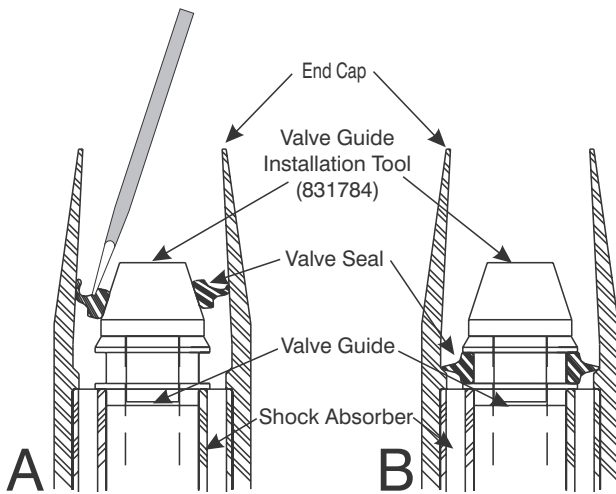

Figure 9-5. Press Valve Seal into End Cap and onto Valve Guide.
13. Look inside the non-threaded end of the End Cap and lubricate that part of the Valve Guide that protrudes from the Shock Absorber. See Figure 9-5-A.
14. Lubricate the Valve Guide Installation Tool 831784 and place it into the Valve Guide. The smaller part of the cone faces up as shown in Figure 9-5-A.
15. Lubricate the Valve Seal (17) and fit it around the cone of the Valve Guide Installation Tool. See Figure 9-5-A.
shoulder at end of the Valve Guide as shown in Figure 9-5-B.